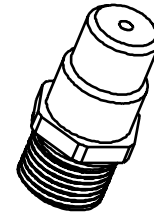

Figure 58 - Burner Orifice
Step 7. (Refer to **Figure 55** on **Page 33** and **Figure 58**)
A. Remove the orifice from the manifold and replace it with the one provided in the kit. See **Table 9** for orifice sizes for natural and propane models. **Figure 58** illustrates the orifice. Use pipe joint compound or Teflon tape on all pipe fittings before installing (ensure propane resistant compounds are used in propane applications, do not use pipe joint compounds on flare fittings).